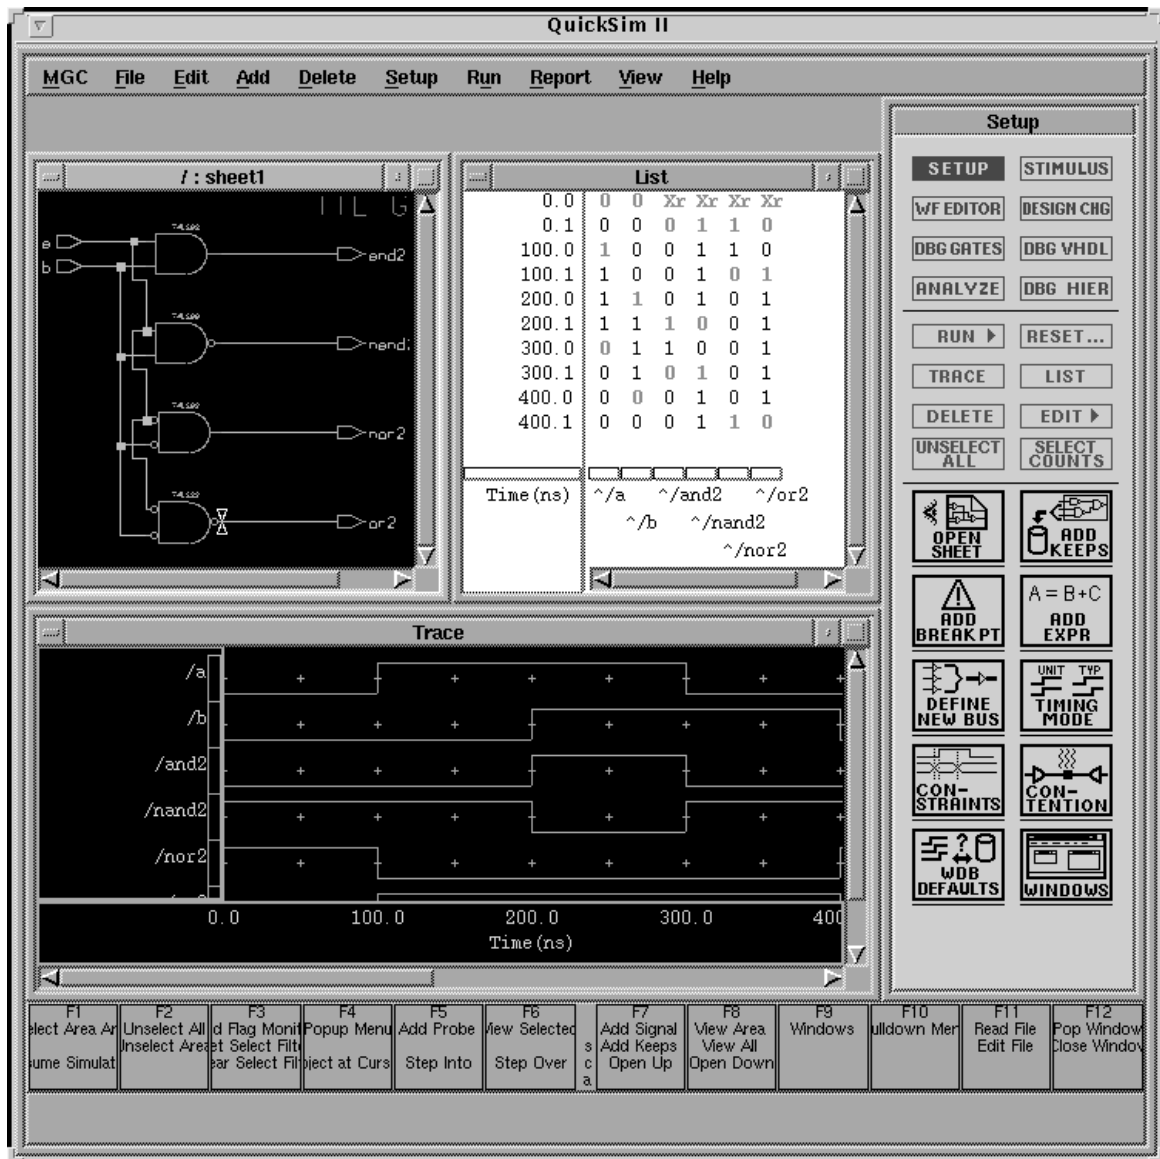

Figure 2-6: Quicksim II Main Window
Start the simulation tool, Quicksim, by typing "quicksim 4parts" at the Unix command prompt. (As with design architect, it is important to be in the correct directory, and to have already typed sul and swd to set the working library and directory). You should see a Quicksim II main window like that is shown in Figure 2-6 (without the circuit and simulation windows). Don't be dismayed by how slowly Quicksim II initiates. Once it gets loaded the simulation speed is quite fast even on very large designs of 1000's of gates.
In order to make our window look like Figure 2-6 we need to do a little setup first. Select the Open Sheet icon from the tool palette. The icon looks like an eye looking at a schematic. This is a mnemonic for looking at the design through a Viewpoint. We'll do more with viewpoints in the second half of this tutorial. For now, be aware that all Mentor *downstream tools* like Quicksim II use
Simulation results can be displayed in either a List window like that shown in Figure 2-6 or as waveforms in a Trace window. We'll use a list window in this exercise.
We'll start out by adding the inputs to a Trace window so that we can watch the effect of our FORCE commands. Hit F2 to make sure nothing is selected, then select the two inputs (A and B) in the schematic window. Click on the WF Editor (waveform editor) button in the palette to get the WF Editor command icons, and then click on the Edit Waveform icon to bring up a Trace window with the A and B signals displayed like that shown in Figure 2-6. The names of the signals (*forces@@/B*) indicate that they are coming from the *forces waveform database* and aren't the results of simulation like those shown in the List window.
Click your mouse in the bottom of the window (in the command window) and type the command: FORCE B 0 0. The case isn't important. Either upper or lower will do. This command tells Quicksim II to force signal B to a 0 at time  $T=0$ . The time value in the force command is relative to the current simulation time. Notice that the trace display for B changes from a light blue line in the middle to a magenta line below the line of +'s. A low line corresponds to a zero, a high line to a one, and a line down the middle corresponds to an unknown level (X). This usually means that the signal hasn't been driven to either a one or a zero. The colors are significant and indicate the strength of the signal: charged (weak), resistive (stronger but can be overdriven like it's being driven through a pull up resistor), and driven (like it is grounded or wired to the power supply). This is also indicated in the List window by the Xr (unknown-resistive). Next type the command FORC B 1 200 to force B to a one at  $T=200\text{nS}$ . Force can be abbreviated as FORC. Now use what you've learned and type in three FORCE commands to generate the waveform shown for A in Figure 2-6. If you make a really bad mistake you can always delete a signal by selecting its gadget and then typing the command DEL FORCE. When you're finished, check to make sure the Trace window looks like that shown in Figure 2-6.